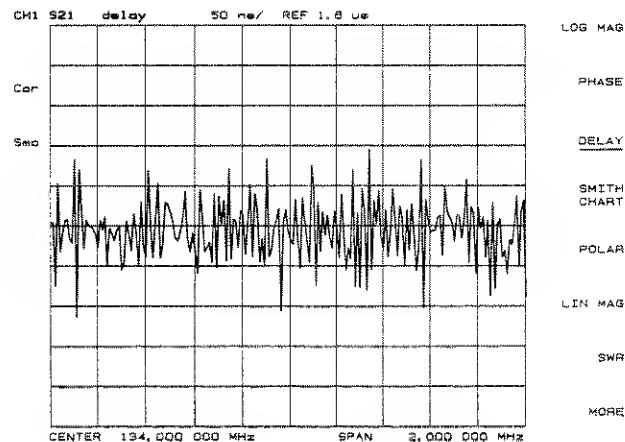

Figure 4-12. Group Delay Format
**[DELAY]** (DELA) selects the group delay format, with marker values given in seconds. Figure 4-12 shows the bandpass filter response formatted as group delay. Group delay principles are described in the next few pages.